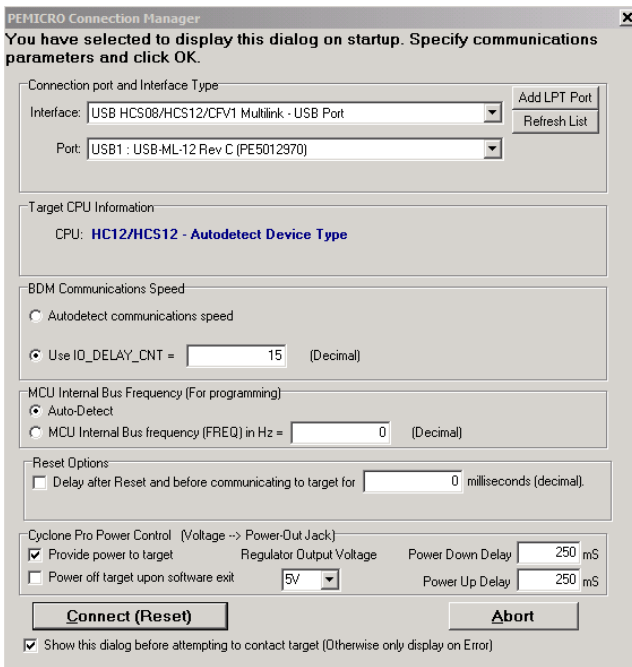

Figure 4
- 6) If the “**PEMICRO Connection Manager**” screen appears, the *Interface* and *Port* boxes should be auto populated, the *Target CPU* “HC12/HCS12” should be Autodetected, Click the “**Connect (Reset)**” button, see figure 4.